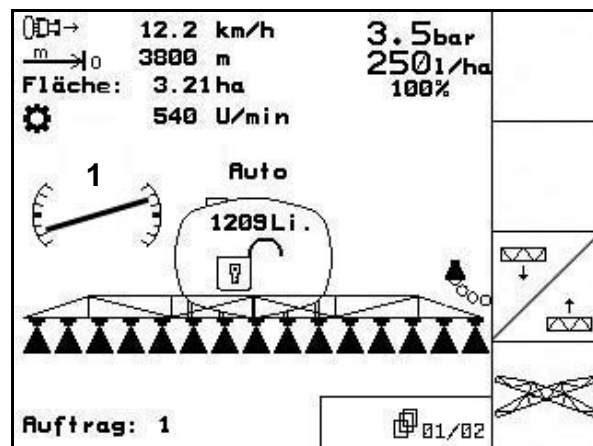

Fig. 128
- In the Menu operation the symbol tilt adjustment (Fig. 128/1) shows the mirrored sprayer boom tilting. Now the right hand side sprayer boom is lifted.